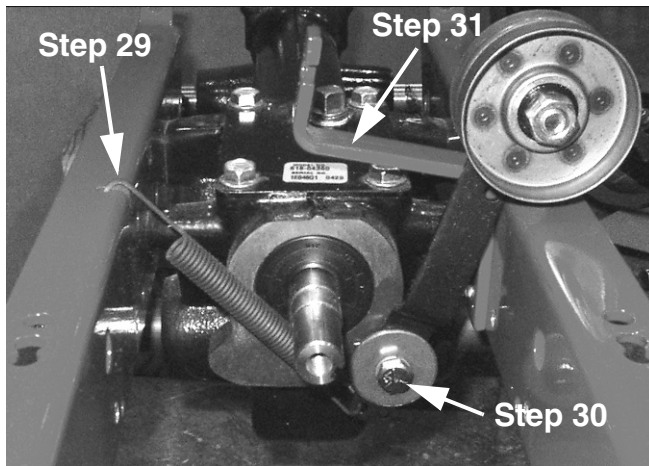

FIGURE 10
29. Unhook the forward drive idler extension spring from the RH frame. See Figure 10.
46. Install forward drive idler bracket w/ flat pulley and spring to the transmission. See Figure 10. (Ensure idler pivots freely).
49. Re-install the forward drive clutch cable mounting bracket. See Figure 10 / Step 31.